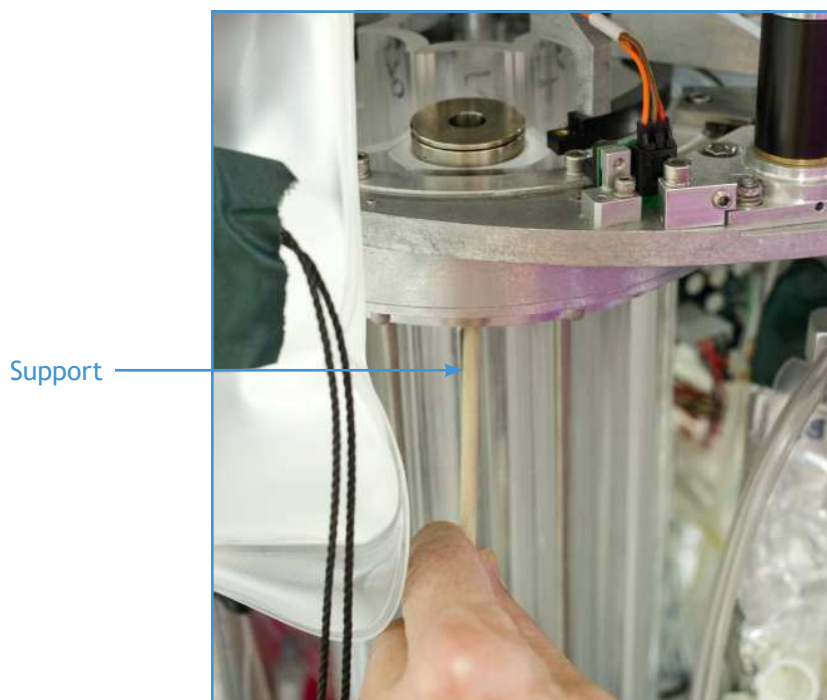

Figure 1-19: Raising stack to load a puck
7. Loading the tube from the bottom up, take a prepared puck, verify it against the carousel loading map, and place the puck in the tube on top of the stick (see Figure 1-19). Lower the support just enough to allow next puck to be placed in the tube. Place the next puck on top of the stack. Repeat this process until the tube is full (i.e., 22 pucks have been loaded). Gently remove the support from the bottom of the stack.